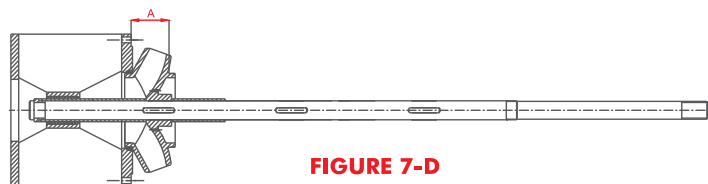

FIGURE 7-D
5. Slide the impeller on the shaft and set it at the bdc. Check the location dimension A by a depth indicator. Refer to the figure 7-D and 7-E for the recommended value.